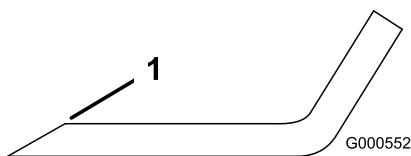
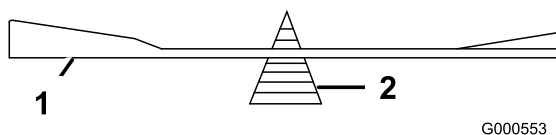

Figure 48
Figure 49
1. Use a file to sharpen the cutting edge at both ends of the blade (Figure 48). Maintain the original angle. The blade retains its balance if the same amount of material is removed from both cutting edges.
2. Check the balance of the blade by putting it on a blade balancer (Figure 49). If the blade stays in a horizontal position, the blade is balanced and can be used. If the blade is not balanced, file some metal off the end of the sail area only (Figure 48). Repeat this procedure until the blade is balanced.